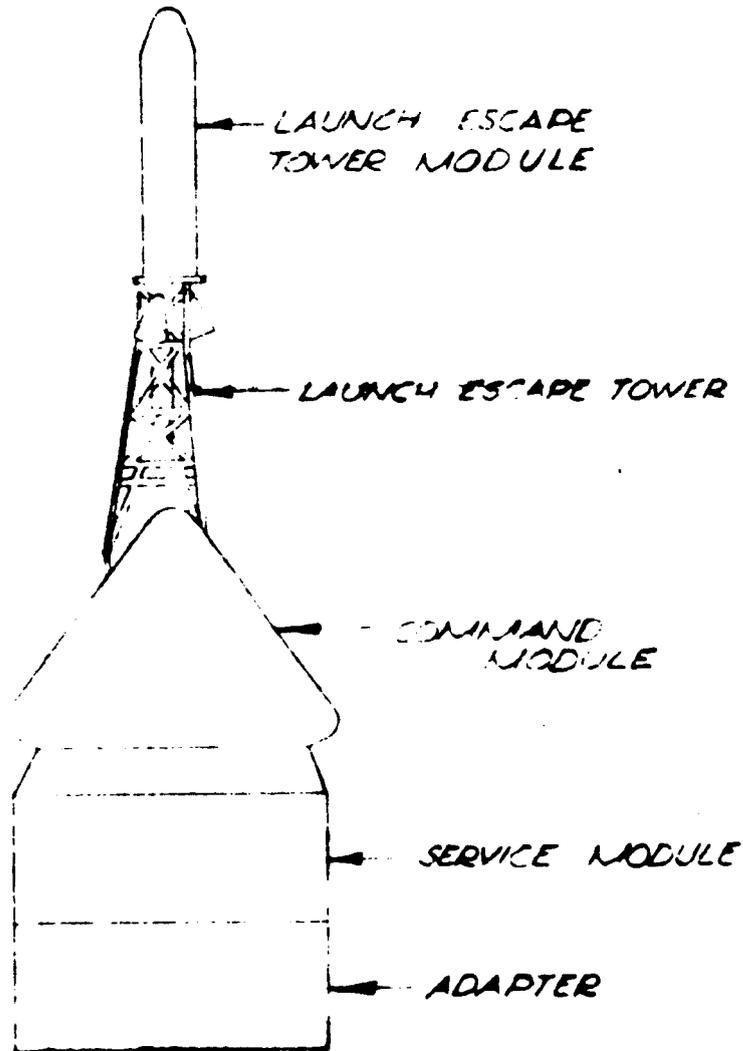

Figure 1. Overall Configuration
3.1 Mockup Configuration. - The Complete Spacecraft Mockup shall consist of the Launch Escape Tower, Command Module, Service Module, and Adapter. The configuration of the complete spacecraft mockup shall be as shown on figure 1. The configuration of each individual mockup shall be as specified herein.